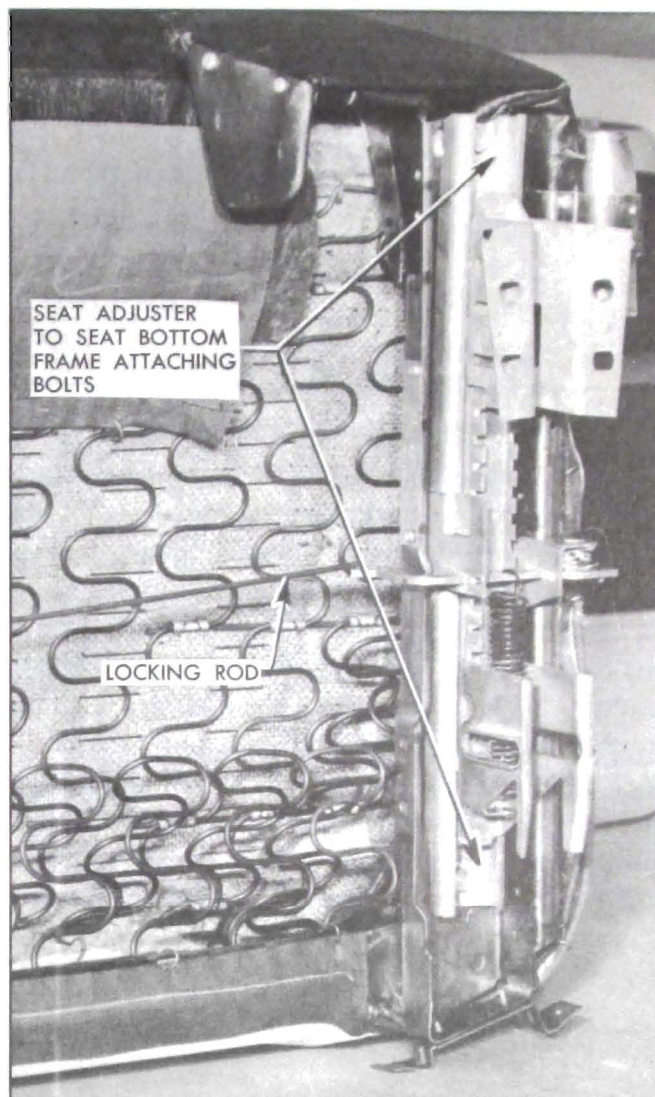

Figure 13-238—Locking Rod Installation
3. With seat adjuster detached from seat bottom frame, the locking rod can be disengaged from seat adjuster. *NOTE: If a new locking rod is installed, remove the slack from rod and its attaching parts by using a suitable tool and gripping rod near right seat adjuster. See figure 13-238. This operation is performed to insure a proper locking and unlocking action of right seat adjuster when operating control handle on left seat adjuster.*